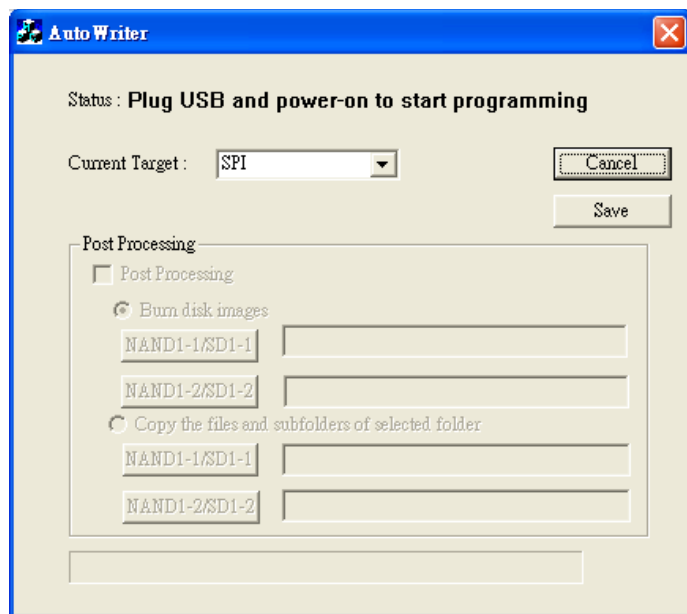

Figure 3–2 UI of AutoWriter
- (2) sets the NuEZCam solution to be recovery mode, it means to short J1 pins of NuEZCam solution shown in Figure 3–3, and plug USB cable into PC/NB.